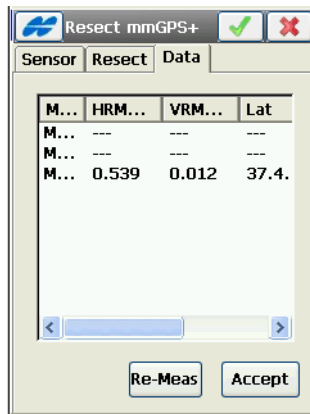

Figure A-5. Resection Data Results
8. Tap the *Data* tab to view the results (Figure A-5 on page A-4).
- Tap the **Re-Meas** button to clear all data and restart the resection process (Figure A-5 on page A-4).
9. If the resection values are acceptable, tap the **Accept** button (Figure A-5) and view the point information for the transmitter (Figure A-6) on the *Add Point* screen.